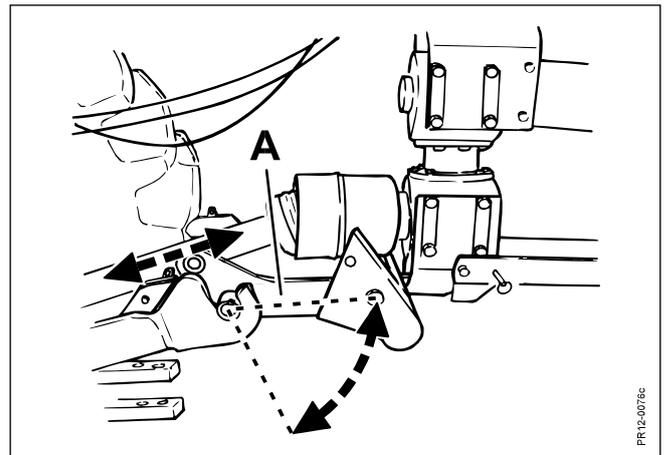

Fig. 2-5
- Fig. 2-5**
- **more than 200 mm overlapping in any position** (referring to situations where the safety drive (shock absorbers of the TOP SAFE system) will be released e.g. by collision against protruding stones, see Fig. 2-5).